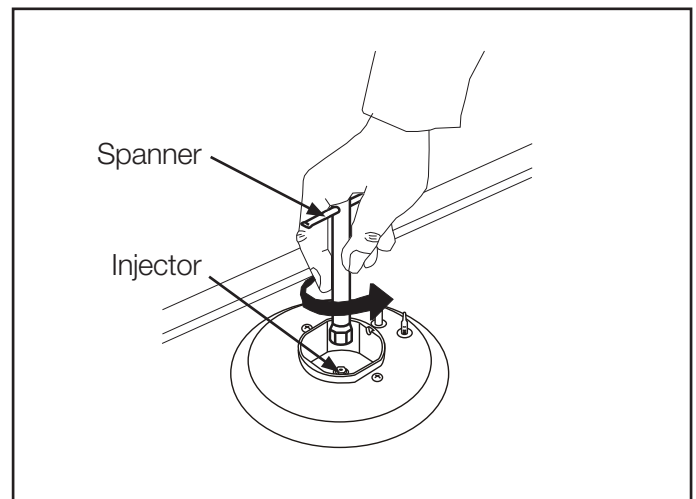

Figure 5
3. Using a 7mm spanner, unscrew the injector as shown in figure 5.